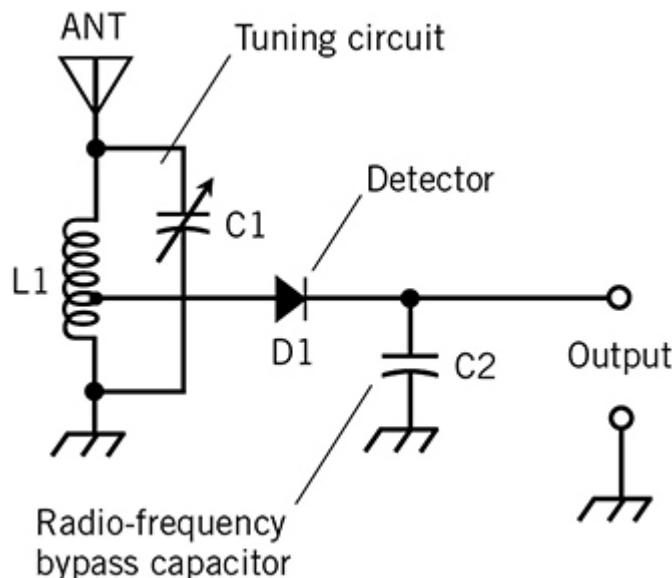
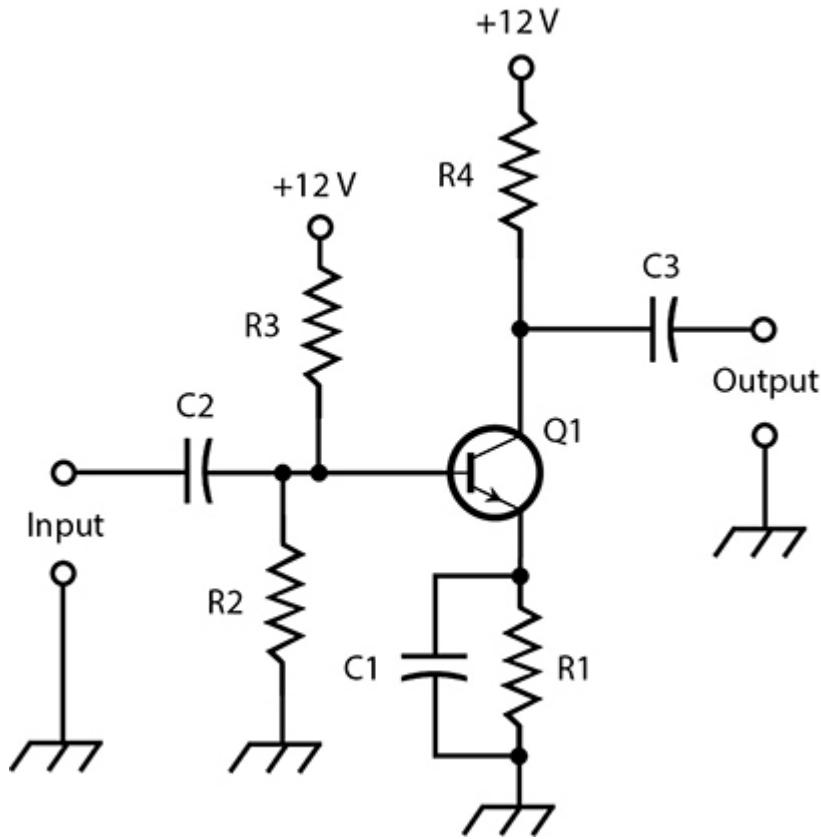
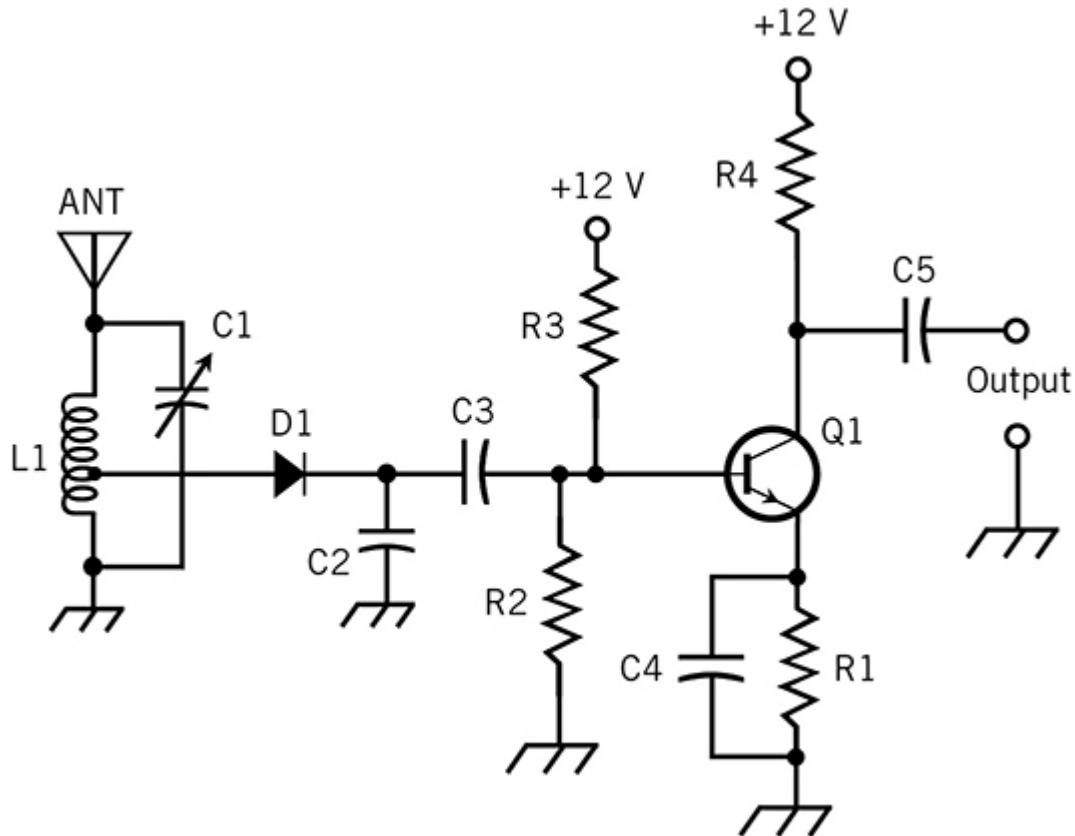
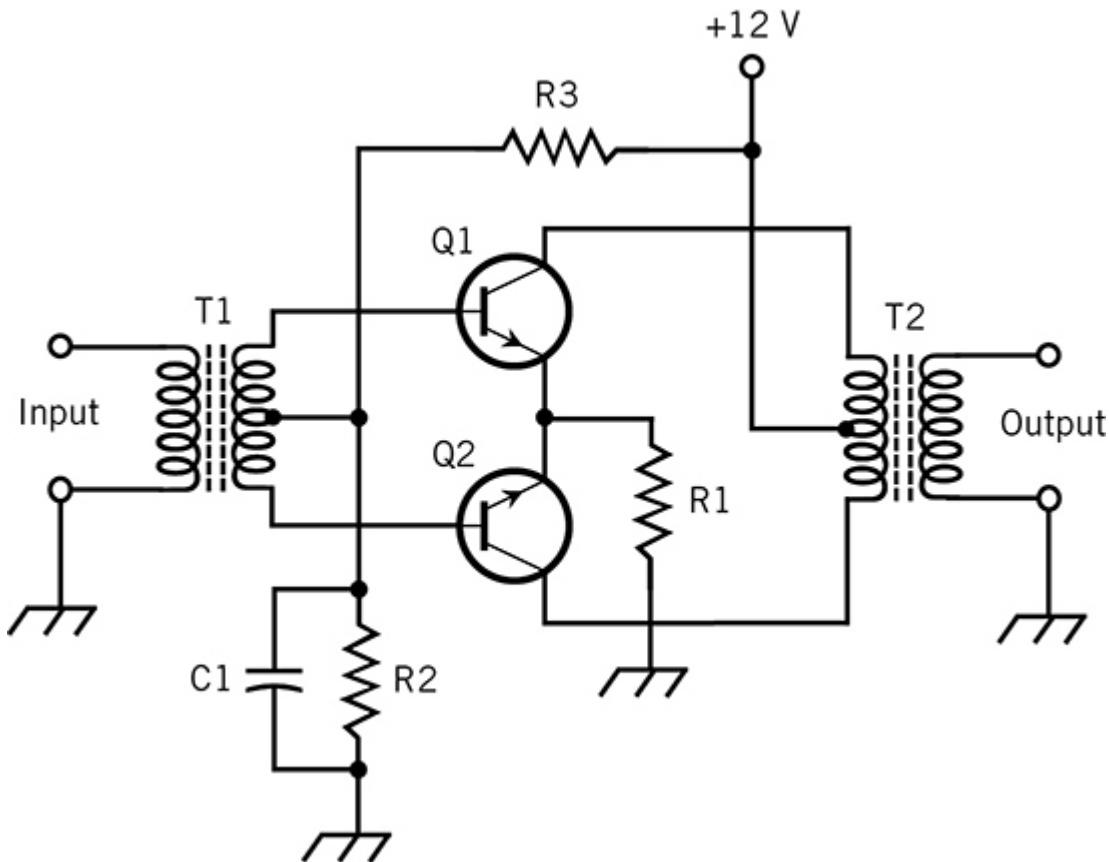

FIG. 5-1 Schematic of the tuned circuit and detector stages of a “crystal radio” receiver. This circuit produces a weak audio-frequency (AF) signal.
FIG. 5-2 An AF preamplifier circuit that can work with the “crystal radio” to produce a signal strong enough to drive a headset.
FIG. 5-3 Combination of "crystal radio" tuned circuit, detector, and AF preamplifier stages. Some component designators are updated from Fig. 5-2.
FIG. 5-4 An AF power amplifier circuit suitable for driving a speaker.
Figure 5-1 shows a “crystal radio” receiver built with an antenna, a tapped air-core inductor, a variable capacitor, an RF diode, and a fixed capacitor. The term “crystal” derives from the original construction of RF diodes in the early 1900s. In order to get a one-way current gate to act as a signal *detector* (or *demodulator*), radio experimenters placed a strand of fine wire called a *cat’s whisker* into contact with a chunk of crystalline lead sulfide called *galena*. Today, semiconductor diodes process RF signals in the same way as “crystals” once did, even though modern RF diodes don’t look like the old galena-and-cat’s-whisker contrivances.
You can't call the circuit of Fig. 5-1 "complicated," but it performs some sophisticated tricks. Aside from the antenna (an external component such as a length of wire running outdoors under a window sash to a tree) and a sensitive earphone or headphone that you can connect at the output terminals to hear radio stations (however faintly), this circuit contains only four components: the coil, the diode, and two capacitors.
You can connect an amplifier to the output of the "crystal radio" to boost the *audio-frequency* (AF) volume to the point where it can drive a headset to a comfortable listening level. Figure 5-1 doesn't include a headset at the output. To accomplish that feat, you'll need another circuit, along with a battery or other source of DC power to make the AF output signal strong enough.
In the "crystal radio" (Fig. 5-1), RF current from the antenna *resonates* (reverberates) in L1 and C1. The *resonant frequency* depends on the size of the coil and also on the setting of C1. That frequency determines which station (if any) that you hear. Diode D1 converts the RF current to pulsating DC that contains a tiny bit of both the RF and the AF energy from the original transmitter. Capacitor C2 shorts the RF part of the signal to ground, leaving only AF energy at the output. You must adjust the position of the coil tap, by trial and error, to maximize the AF output.
Figure 5-2 shows another fairly simple schematic: an AF amplifier that employs a single NPN bipolar transistor. In addition to the transistor, this circuit has four resistors and three capacitors for a total of eight components. It needs a source of DC power such as a battery (not shown), which provides 12 V. This circuit accepts a low-level AF signal (the output of a "crystal radio," for example) at the input terminals and boosts the power to a level strong enough to make audible sound come out of a headset. An experienced engineer might need a couple minutes to scribble the schematic and a couple of hours to build and test the circuit, "tweaking" the component values to get the best possible performance.
Because the circuit of Fig. 5-2 takes a weak signal and boosts it to a reasonable (but not very powerful) level, it’s sometimes called a *preamplifier*. If you want to drive a speaker so that all the students in a classroom can hear the sound, you’ll need more amplification. You can get that extra AF boost with one or more additional amplifiers connected to the output of the preamplifier.
In the circuit of Fig. 5-2, AF current passes from the input through C2 to the base of Q1. Capacitor C2 keeps the power supply DC from affecting the behavior of the previous circuit (the “crystal radio”). Tiny current fluctuations at the base of Q1 cause larger current variations through the transistor from the emitter to the collector. The amplified AF signal passes through C3 to the output. The resistors govern the current flowing through Q1; you must choose their values by experiment for optimum
Figure 5-3 is a schematic of a circuit that looks, at first glance, more complicated than either Fig. 5-1 or Fig. 5-2. But as you examine Fig. 5-3 for a minute, you'll see that it's nothing more than the composite of the "crystal radio" (Fig. 5-1) and the AF preamplifier (Fig. 5-2). The components are re-numbered generally going from left to right, the direction of signal flow through the system. (You should never duplicate a component designator within a single schematic.) In Fig. 5-3, the connection between the original "crystal radio" and the preamplifier corresponds to the short, horizontal line that goes from the dot above C2 to the left-hand side of C3.
Now that you can envision the two building blocks that make up the circuit of Fig. 5-3, the whole diagram looks elementary, wouldn't you say? You can follow the signal as it passes through the "crystal radio" and then through the AF preamplifier. The entire process, from the RF signal arriving at the antenna to the AF energy appearing at the output, takes place in a tiny fraction of a second.
The circuit of Fig. 5-3 produces a stronger signal than the feeble output of the "crystal radio" alone, which gets its power only from RF current that flows in the antenna. Nevertheless, even the amplified AF output from the circuit of Fig. 5-3 isn't strong enough to provide a comfortable listening volume in a loudspeaker. It offers some sound power if you connect a headset to it, but not much. In order to further boost the AF signal level, you'll need a substantial *power amplifier*.
Figure 5-4 shows a two-transistor ensemble that can produce respectable sound power. It's called a *push-pull amplifier*. The top transistor amplifies half the AF waveform and the bottom transistor amplifies the other half. Imagine that Q1 "pushes" and Q2 "pulls" so when you combine their outputs, you get a magnified version of the entire input waveform. The push-pull amplifier can take the weak AF signal from a low-level amplifier (such as the circuit of Fig. 5-3) and boost it enough to make some loud sound come out of a speaker!
If the input signal doesn't contain much power, then the circuit of Fig. 5-4 won't get enough *drive* (input power) to produce a decent output signal. The circuit of Fig. 5-3 (the AF preamplifier) can provide enough “oomph” to adequately drive a push-pull AF power amplifier such as the one
diagrammed in Fig. 5-4. The circuit of Fig. 5-1 (the “crystal radio” alone) can’t.
In the circuit of Fig. 5-4, the input signal goes through an AF transformer, T1, and appears across its secondary. Transistor Q1 handles half of the cycle and Q2 handles the other half, as the AF input current flows up and down through the secondary of T1. Transformer T2 assembles the two halves of the amplified cycle back into a complete AF signal stronger than the one entering T1. When you connect a speaker to the secondary of T2, you’ll hear some loud sound!
If you combine the circuits of Figs. 5-3 and 5-4 in *cascade* (one after the other), you get a complete AM radio receiver that will produce respectable sound from a speaker. Figure 5-5 shows the entire three-transistor AM radio receiver in a single schematic. Again, we’ve had to change some of the component designators that appeared in previous diagrams, so they increase generally as you go from the original input at the antenna to the final output at the speaker, taking pains to ensure that you don’t inadvertently give two different components the same name.
FIG. 5-5 Complete radio receiver circuit. Some of the component designators in the AF power amplifier stage are updated from Fig. 5-4. This schematic includes the speaker.
The full AF voltage appears across the entire resistance of R8. The arrow touching the zig-zag symbolizes the potentiometer *wiper* or *slider*, which “picks off” AF voltages that can range from zero (all the way to the right-hand end of the zig-zag, at ground) to the maximum possible (all the way to the left-hand end of the zig-zag, at C5). The slider signal causes AF current to flow in the primary of transformer T1. From there, the signal flows as described in “Follow the flow” for Fig. 5-4. The only difference between this situation and that one is the numbering of the component designators. You can also add a speaker to the output of T2, as you did in Fig. 5-5.